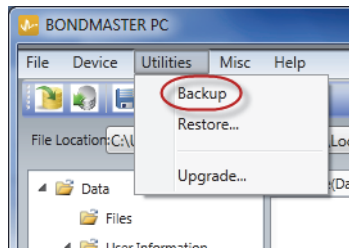

Figure 7-24 The Backup command
2. On the BondMaster PC software **Utilities** menu, select **Backup** (see Figure 7-24 on page 210).